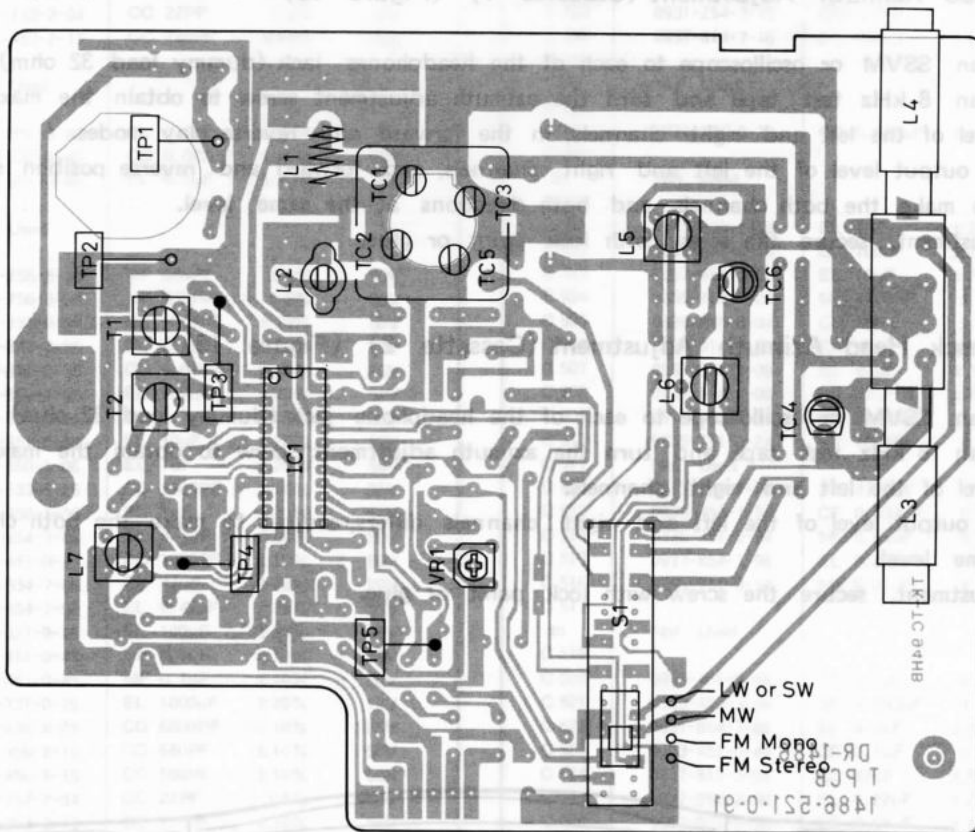

Figure 16
AM IF Alignment (Figures 16 and 18)
MW RF Alignment (Figures 16 and 18)
LW RF Alignment (Figures 16 and 18)
## FM IF Alignment (Figures 16 and 19)
## FM RF Alignment (Figures 16, 20 and 21)
**AM IF Alignment (Figures 16 and 18)**
**MW RF Alignment (Figures 16 and 18)**
**SW RF Alignment (Figures 16 and 18)**
FM IF Alignment (Figures 16 and 19)
FM RF Alignment (Figures 16, 20 and 21)